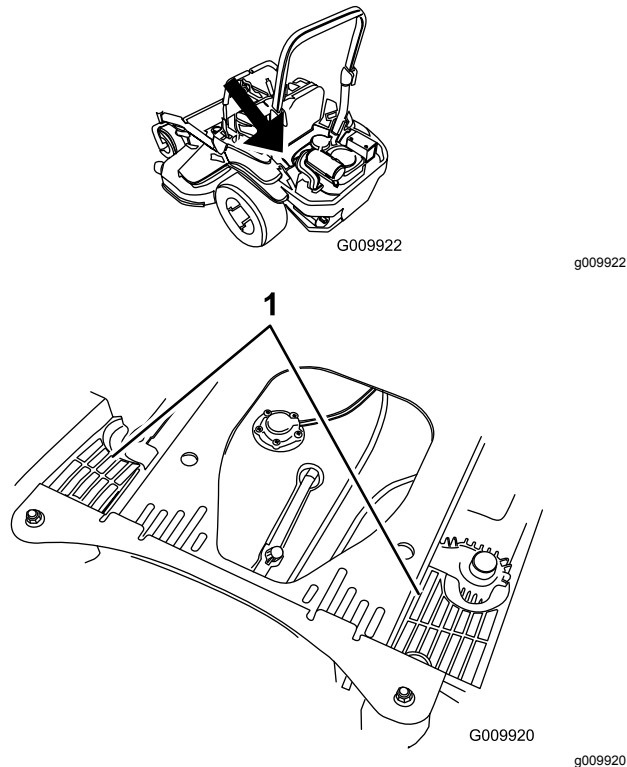

Figure 85
4. Clean the debris and grass from the hydraulic-unit shrouds (Figure 85).